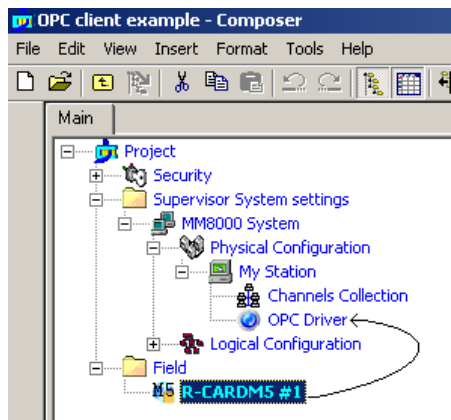

Fig. 10 Linking the R-Card subsystem to the corresponding driver
3. Drag the R-Card subsystem node to the ‘OPC Driver’ node (see Fig. 10).